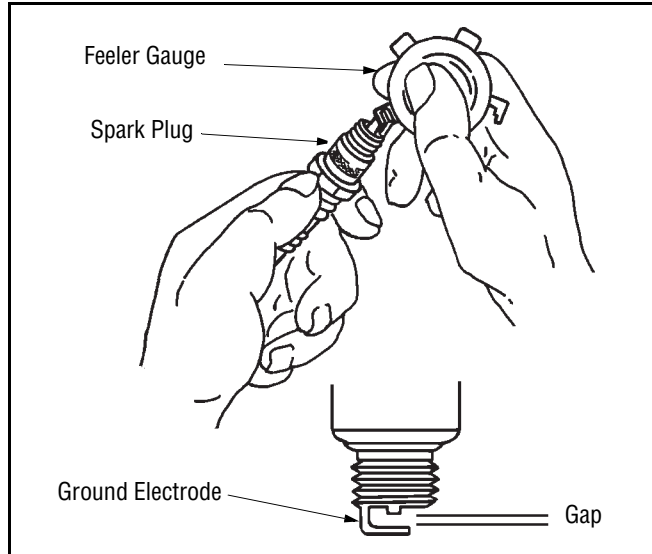

Figure 19
8. Check the gap using a feeler gauge and adjust, if necessary, by carefully bending the ground electrode. See Figure 19. Set the spark plug gap to 0.030 in (0.76 mm).